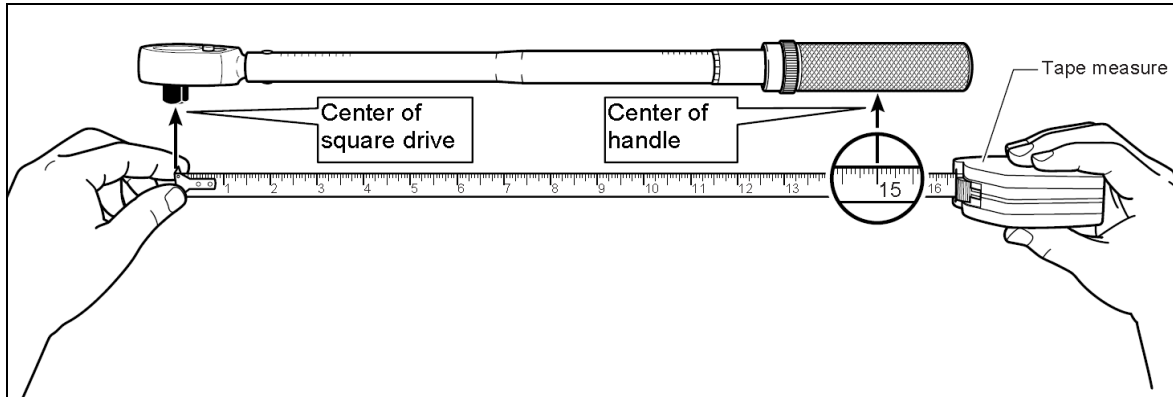

Figure 21m
- a. Measure the length of your torque wrench between the center of the handle and the center of the square drive as shown in Figure 21m.